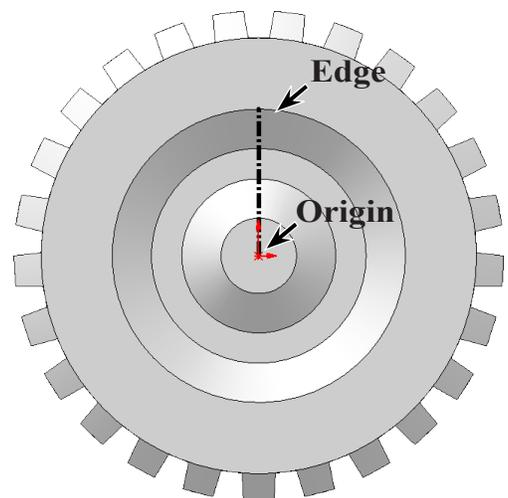

Fig. 23
Step 4. Sketch a **vertical centerline from the Origin**  up to **outer edge of Cut2**, **Fig. 23**.